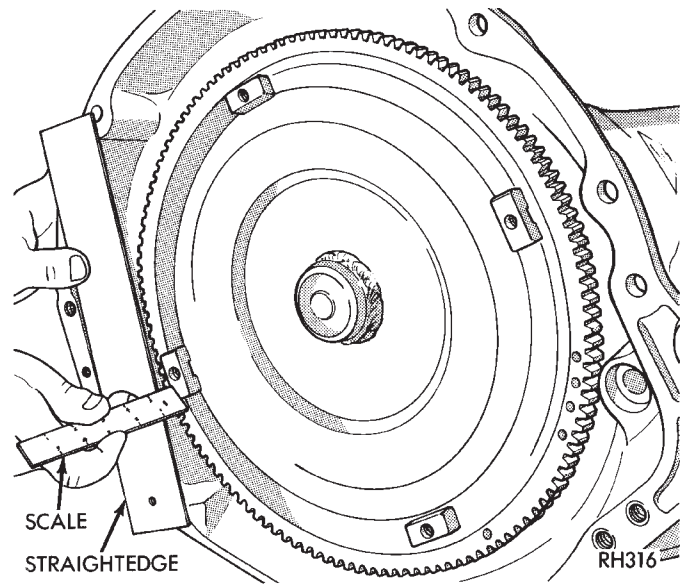

Fig. 22 Typical Method Of Checking Converter Seating
(1) Check torque converter hub and hub drive notches for sharp edges burrs, scratches, or nicks. Polish the hub and notches with 320/400 grit paper and crocus cloth if necessary. The hub must be smooth to avoid damaging pump seal at installation.
(2) If a replacement transmission is being installed, transfer any components necessary, such as the manual shift lever and shift cable bracket, from the original transmission onto the replacement transmission.
(3) Lubricate converter drive hub and oil pump seal lip with transmission fluid.
(4) Lubricate converter pilot hub with transmission fluid.
(5) Align converter and oil pump.
(6) Carefully insert converter in oil pump. Then rotate converter back and forth until fully seated in pump gears.
(7) Check converter seating with steel scale and straightedge (Fig. 22). Surface of converter lugs should be 1/2 in. to rear of straightedge when converter is fully seated.
(8) Temporarily secure converter with C-clamp.
(9) Position transmission on jack and secure it with chains.
(10) Check condition of converter driveplate. Replace the plate if cracked, distorted or damaged. **Also be sure transmission dowel pins are seated in engine block and protrude far enough to hold transmission in alignment.**
(11) Raise transmission and align converter with drive plate and converter housing with engine block.